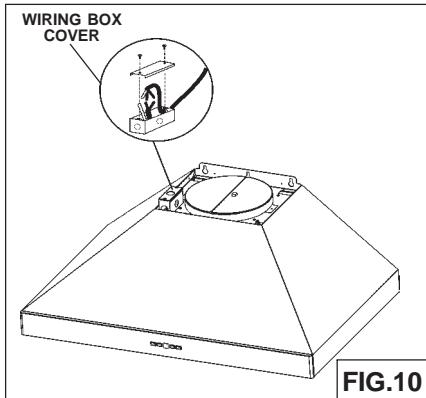

FIG.10
1. Remove the **wiring box cover**. Remove a knockout from the wiring box (Fig.10).